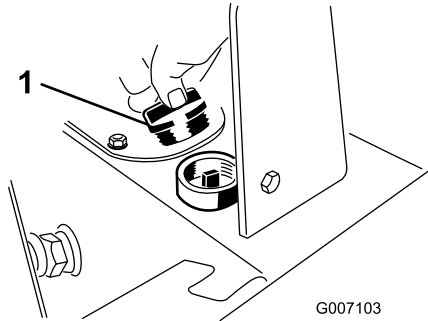

Figure 17
4. Clean the area around the filler neck of the hydraulic tank and remove the cap from the filler neck (Figure 17).